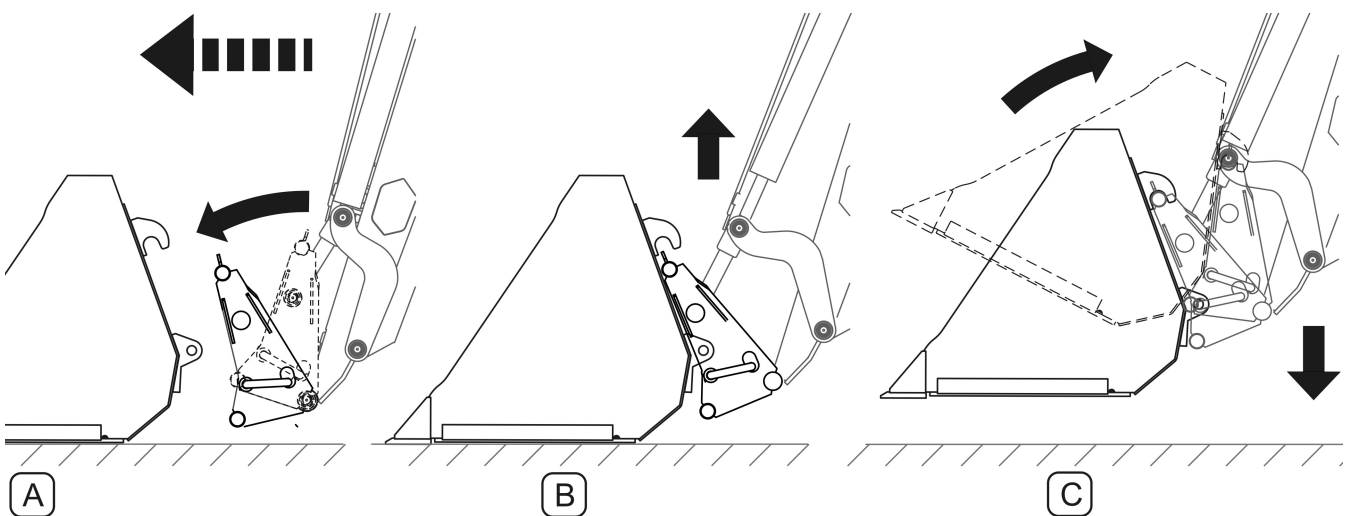

FIGURE 4.20. Installation of work tools
- rotate the frame forward and lower the boom so that the mounting points on the quick mounting frame are below the mounting points in the attachment (A, FIGURE 4.20)
- raise the jib by inserting the jib frame points into the implement hooks; (B, FIGURE 4.20)
- by controlling the lever in the cabin, tilt the frame back and lower the boom, causing the quick-securing mechanism to block (C, FIGURE 4.20)